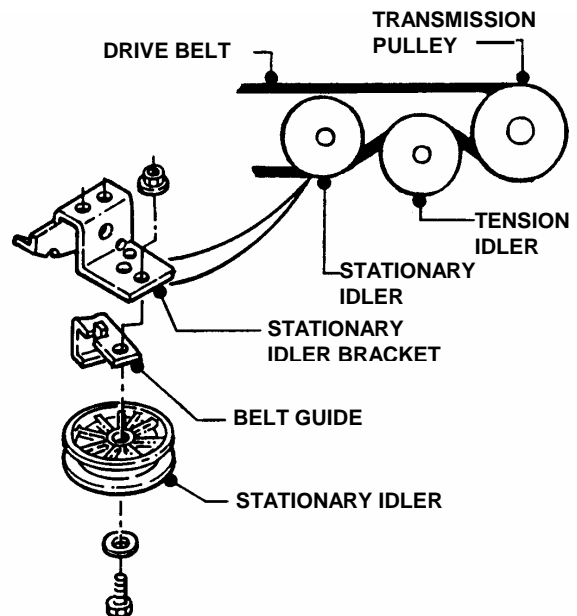

FIGURE 4.29
3. Route belt through stationary and tension idlers. See Figure 4.29.
NOTE: When installing a new belt, make certain the stationary idler is mounted in the hole closest to the L.H. side of the tractor. See Figure 4.29.